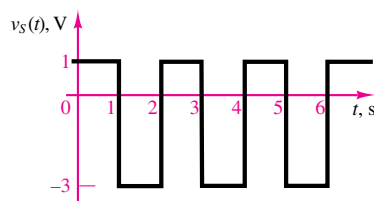

Figure P7.8
- 7.8** Given the waveform of a voltage source shown in Figure P7.8, find: